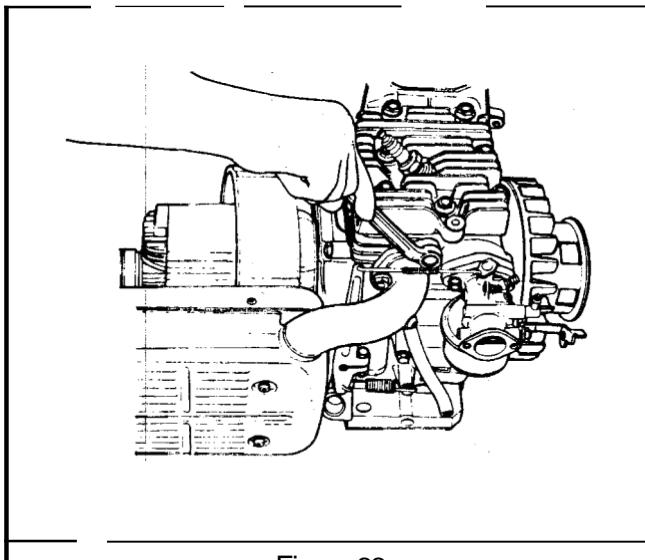

Figure 66
20. Remove the two nuts securing the muffler to the engine. See Figure 66.